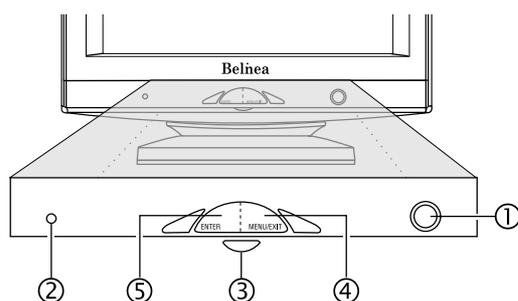

Figure 4. Monitor features
1. First, turn on your PC, and then turn on your Belinea monitor. The status indicator (see ② in figure 4) should light up green.
You can adjust the contrast and brightness directly by turning the OSD dial (③ in figure 4) while the OSD menu is not active. Turning the dial clockwise displays the OSD contrast menu, while turning it counter-
1. Press the **MENU/EXIT** button (④ in figure 4) to display the OSD menu on the screen.
2. There are 9 different OSD submenus organized by categories. Select the desired category (see the following section "OSD Menu Functions") by turning the OSD dial (③ in figure 4), and press the **ENTER** button (⑤ in figure 4).
3. If the selected category contains multiple functions, select the desired function icon using the OSD dial (③ in figure 4, see the following section "OSD Menu Functions").
4. Press the **ENTER** button (⑤ in figure 4) to activate the function.